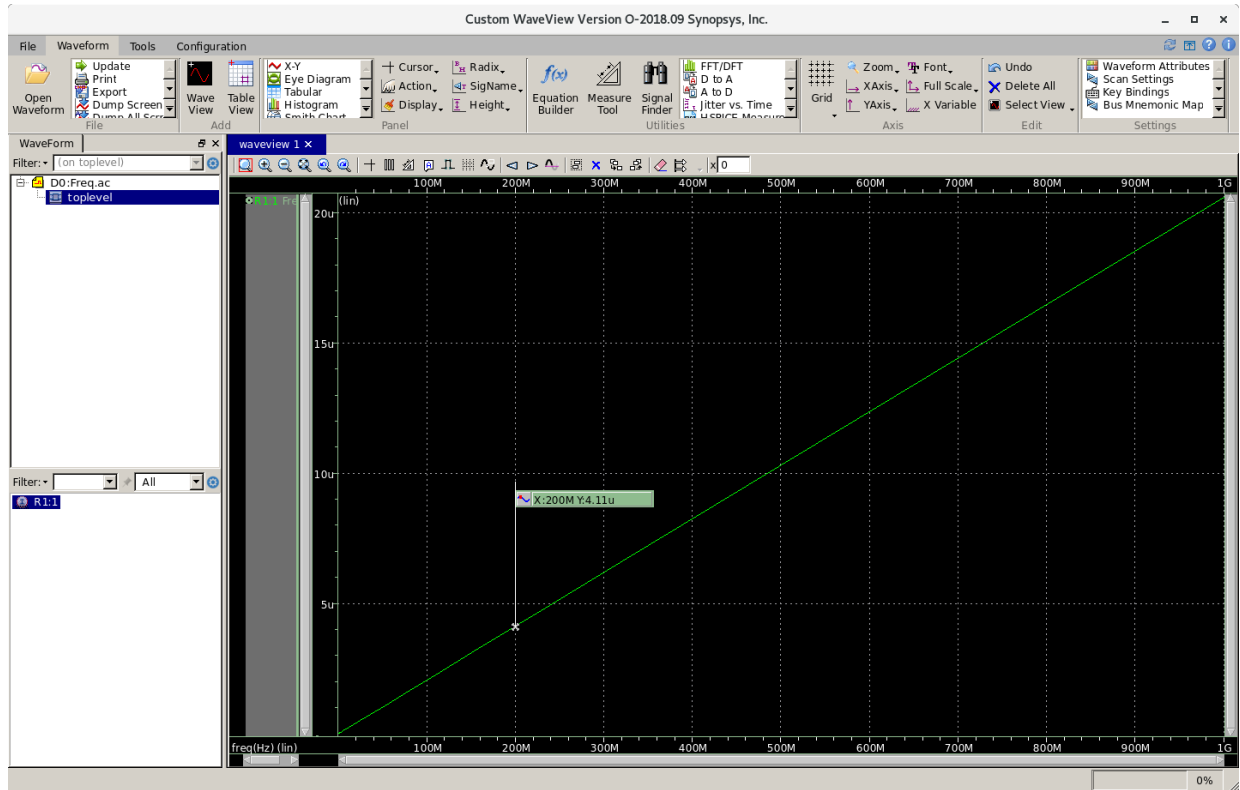

Figure 6. Measuring frequency and current
- After you have entered the X value press “Apply”. A marker with X and Y values will appear in your waveform, as it is shown in Figure 6.